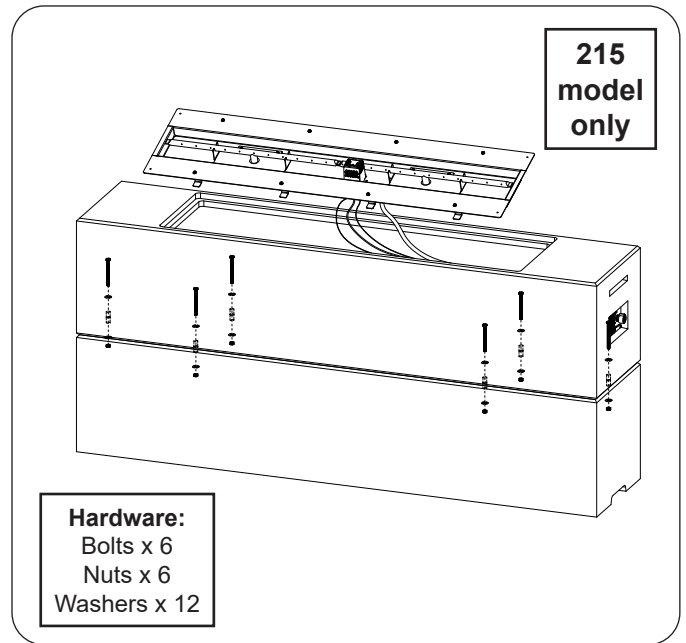

Fig. 27-1 Assemble unit (if applicable)
1. Insert the hardware kits in the position shown in Fig. 27-1. Hand tighten, then use two $\frac{1}{2}$ " open end wrenches (or equivalent) to fasten.